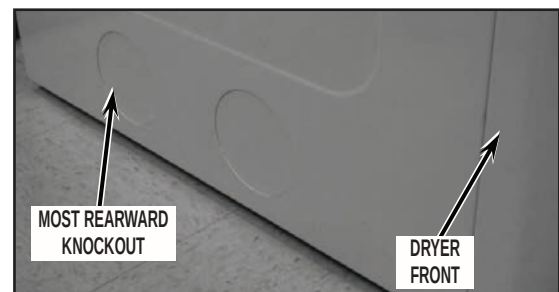

FIGURE 19
1. As you are facing the dryer, review the lower section of the left side panel. If two (2) knockout features are present (See *Figure 19*), remove the MOST REARWARD KNOCKOUT ONLY.